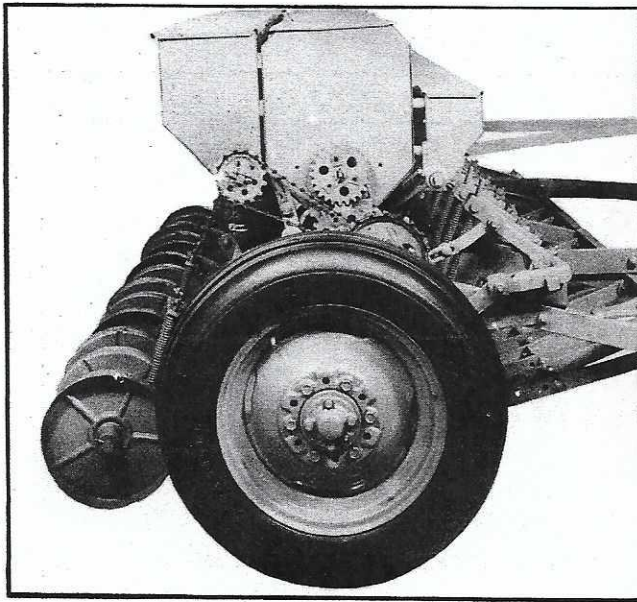

Fig. 11A
7. Install and adjust fertilizer drive chain tightener. Fig. 11A.
1. Mount grass seeder attachment to forward side of grain box, using long spacers at the top and short spacers at the bottom as shown in Fig. 11A.